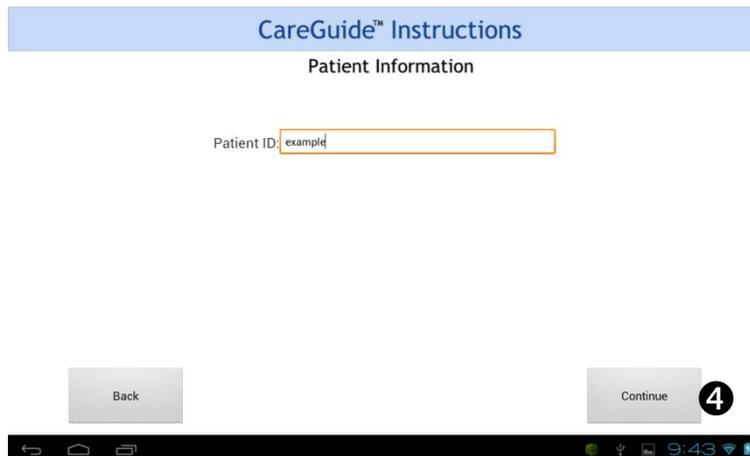

Figure 6. Patient ID Entered
- 4 Click 'Continue' (Figure 6 ❹).